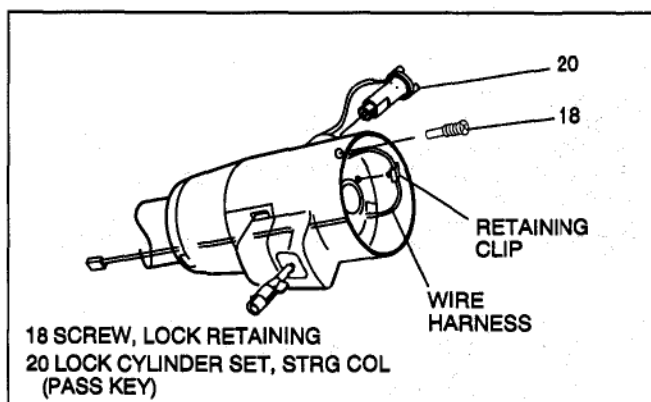

Figure 10 - Installing Pass Key Lock Cylinder Set
NOTICE: Route wire from pass key lock cylinder as shown and snap retaining clip into hole in housing (19). (See Figures 10 and 11) Failure to do so may result in component damage or malfunction of pass key lock cylinder.